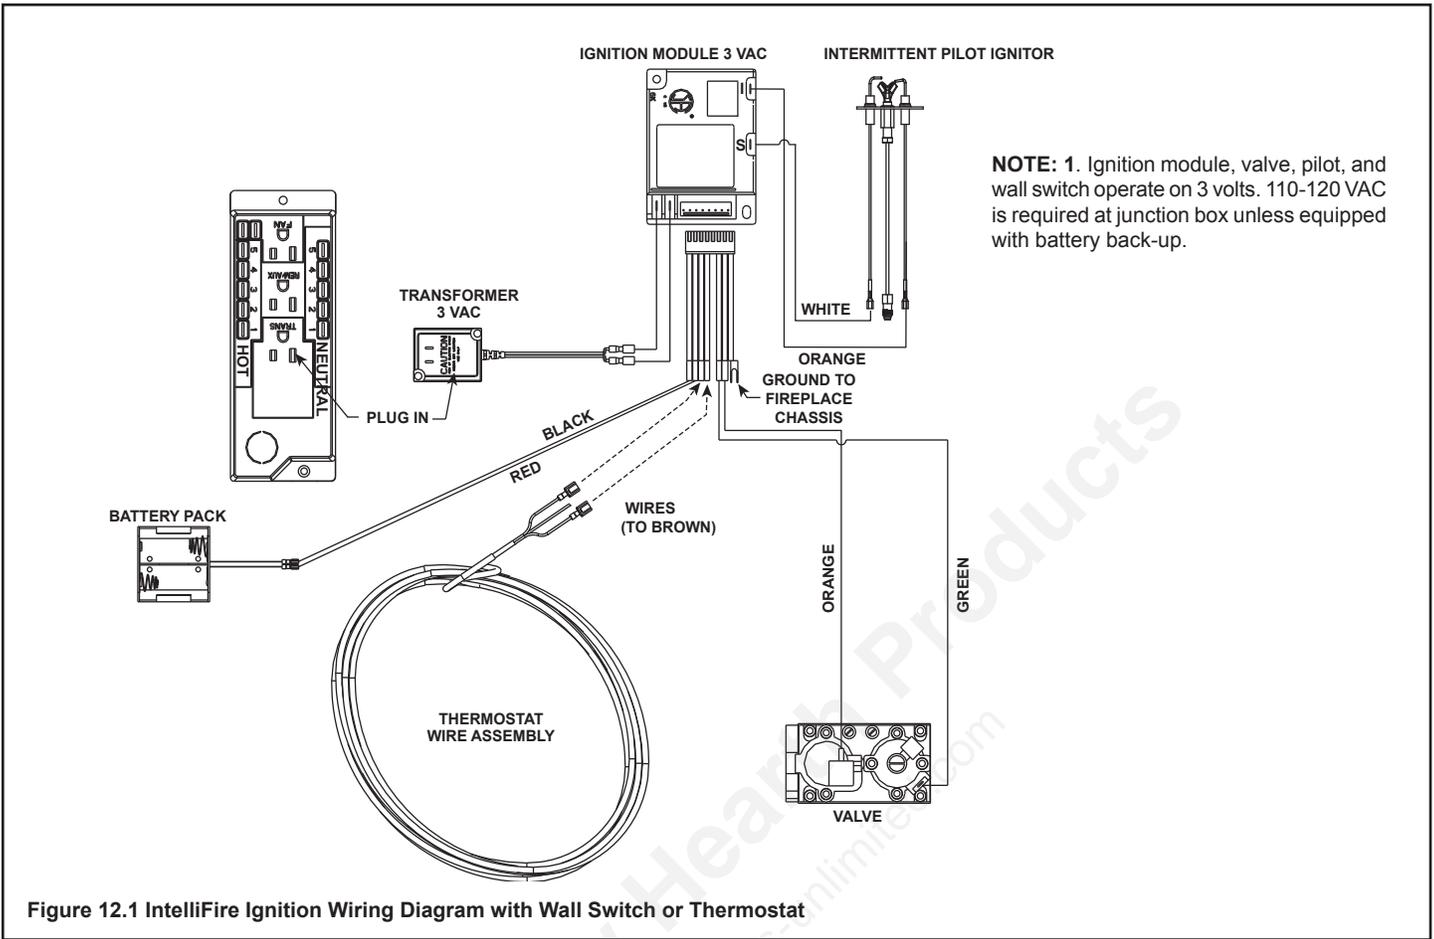

Figure 12.1 IntelliFire Ignition Wiring Diagram with Wall Switch or Thermostat
- Refer to Figures 12.1 and 12.2, IntelliFire Pilot Ignition (IPI) Wiring Diagram.